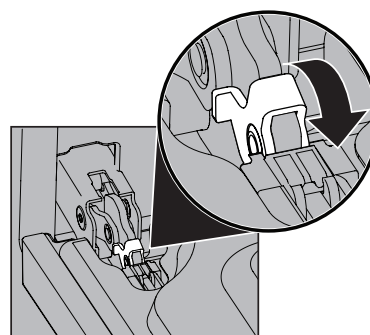

Figure 28: Door Hinge Lock
2. Pull up the lock located on each hinge support toward front of the oven until the lock stops. You may have to apply a little upward pressure on the lock to pull it up (Figure 28).
4. Push the door hinge locks up toward and into the oven frame on both left and right oven door hinges to the locked position (Figure 28).